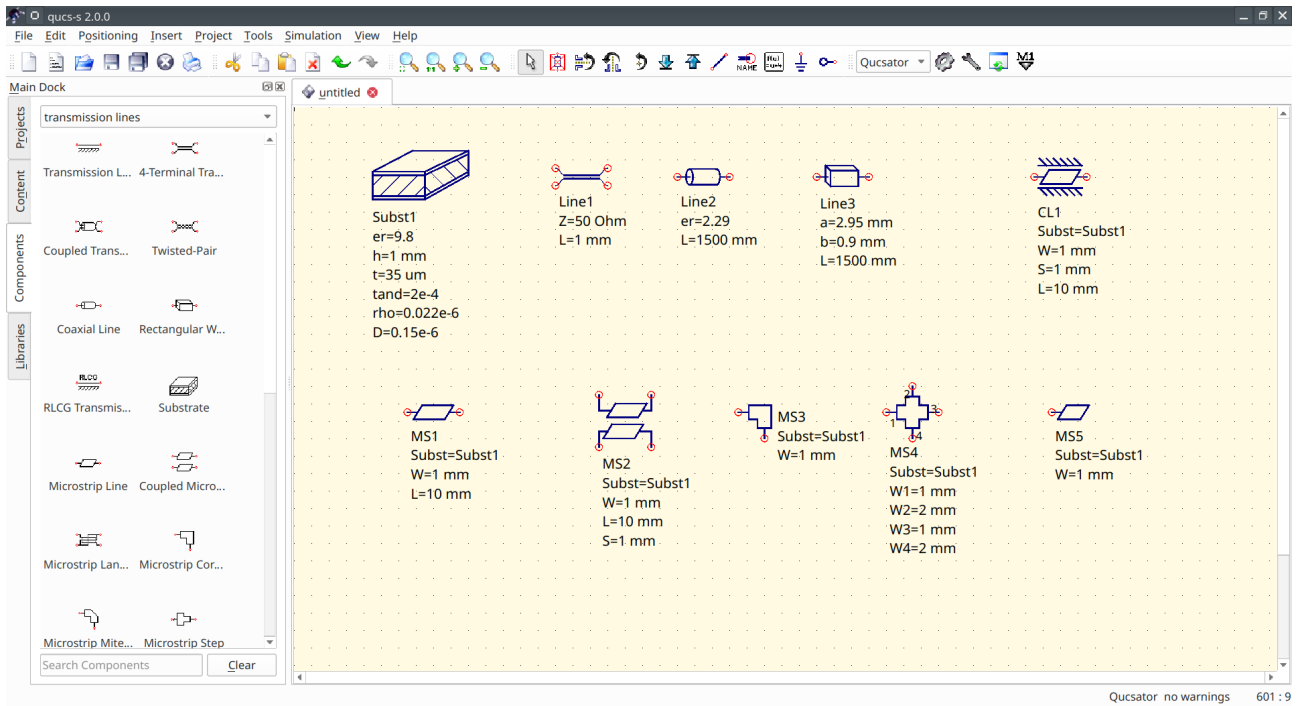

Figure 23: Transmission lines models available for Qucsator backend
But Qucsator supports some advanced RF simulation techniques like multiport S-parameter simulation (including 1-port) and harmonic balance (HB) analysis. Qucsator provides a number of improved models for transmission lines (Fig. 23). The most frequently used transmission lines are listed below: